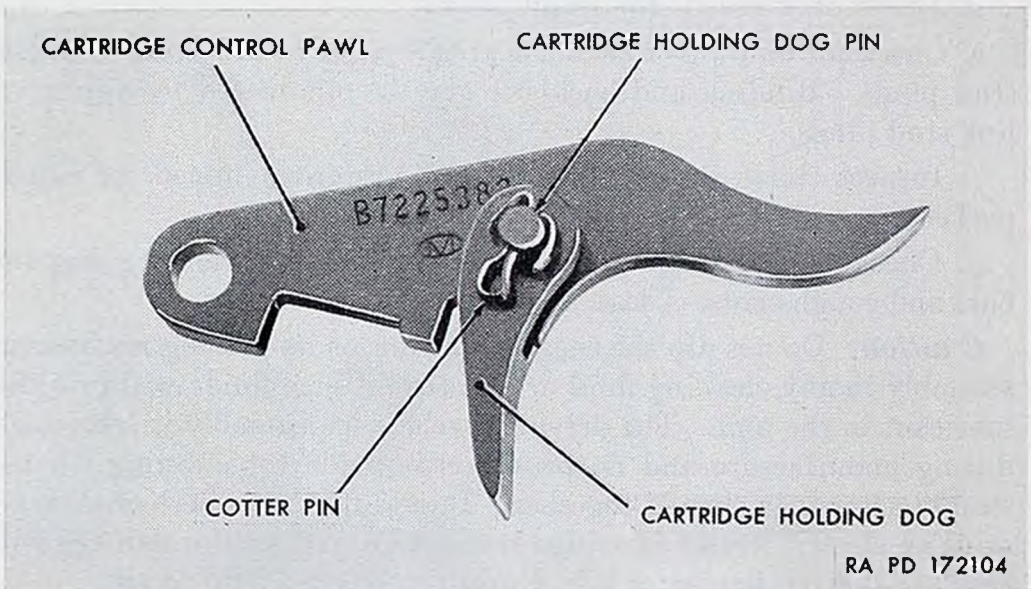

Figure 155. Cartridge holding dog assembled to cartridge control pawl.
b. Assemble cartridge holding dog to cartridge control pawl by means of the cartridge holding dog pin, so that convex side of dog is adjacent to concave side of pawl, and secure dog with the two cotter pins (fig. 155).